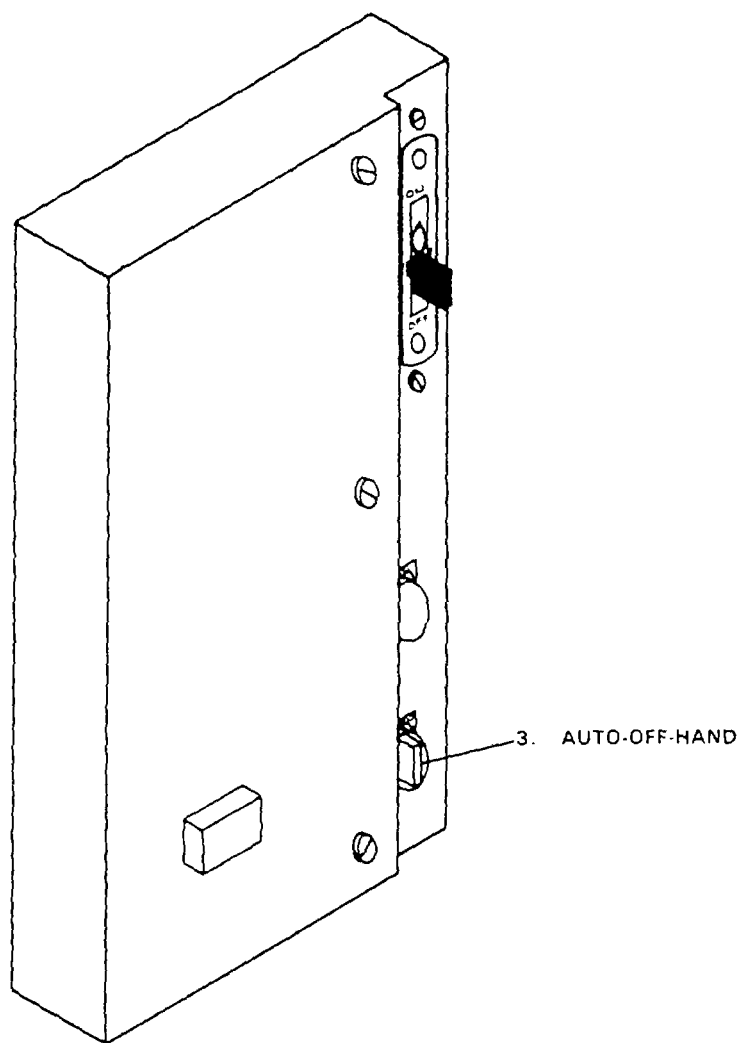

FIGURE 2-133. Steering Hydraulic Pump Motor Controller.
- **Station a crew member at the Steering Hydraulic Pump Motor Controller Panel (Figure 2-133) in case of faulty or improper performance of the steering system.**
a. Turn #1 and #2 Steering Hydraulic Pump Motor Controller selector switches (FIGURE 2-133) to the AUTO position.
c. Place #1 and #2 Steering Hydraulic Pump Motor Controller Selector switches (3, FIGURE 2-133) to the OFF position.